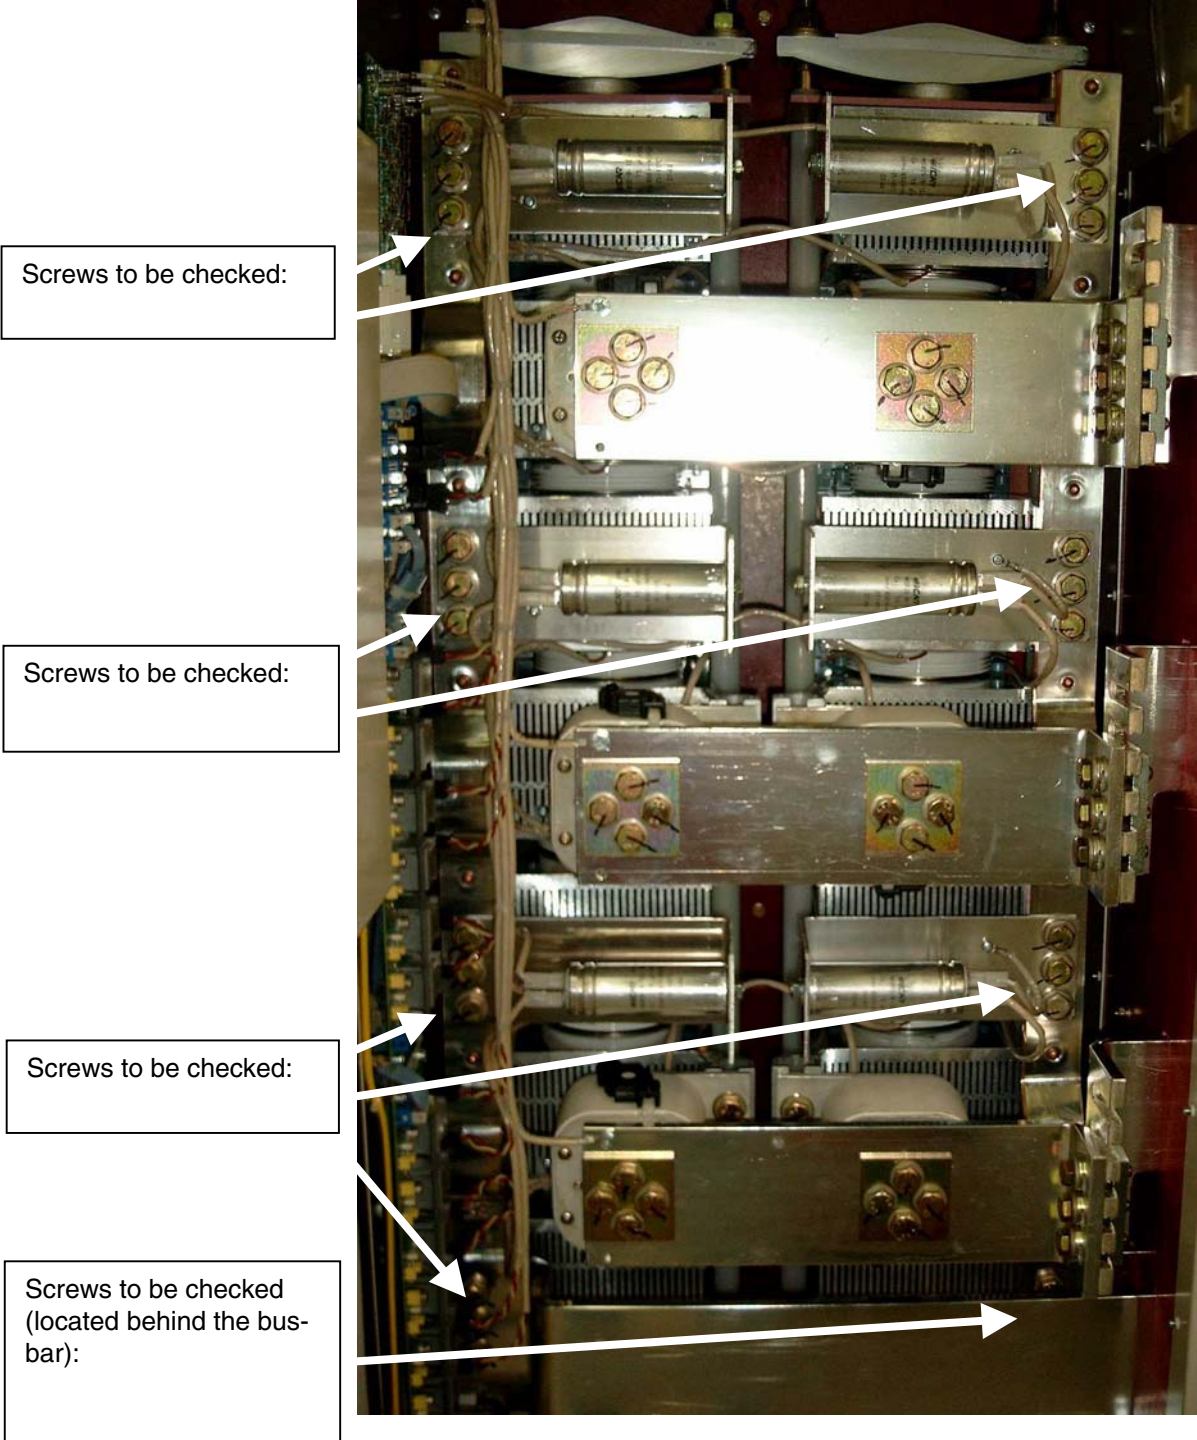

Figure 9-1: Power part of a converter module type C4
- Check the torque of the screws marked within *Figure 9-1* at the end of this chapter: